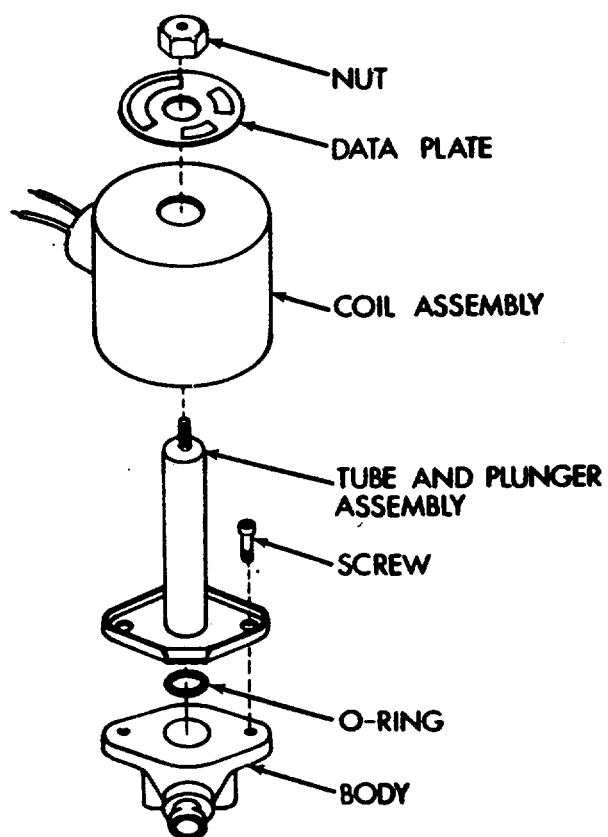

Figure 4-13. Typical Solenoid Valve
**c. Coil replacement.** Replace coils in the solenoid valves as directed in the following procedure: (See figure 4-13.)
- (1) Disconnect wire leads from the connector receptacle.
- (2) Remove the coil retaining nut from the top of coil housing.
- (3) Lift the coil assembly straight up to remove it from the tube and plunger assembly.
- (4) Place the new coil assembly over the tube and plunger assembly.
- (5) Secure the data plate and housing assembly with the nut.
- (6) Install the coil wire leads in connector, and tighten connector on housing.
- (7) Connect the wiring harness plug to the receptacle.